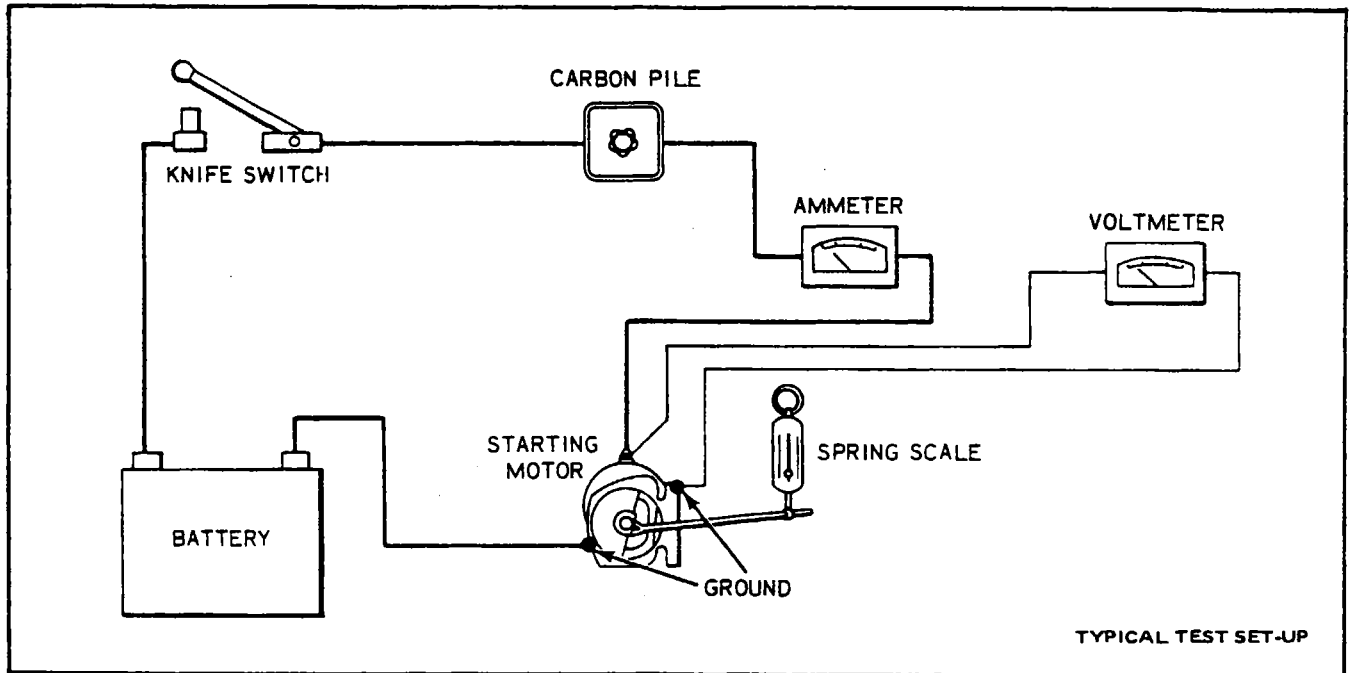

Figure 11-20. Stall Torque Hookup
b. If no difficulty is indicated in the above test, a stall torque test may be made to see if the starting motor is producing its rated cranking power. Make test connections as shown in Figure 11-20.